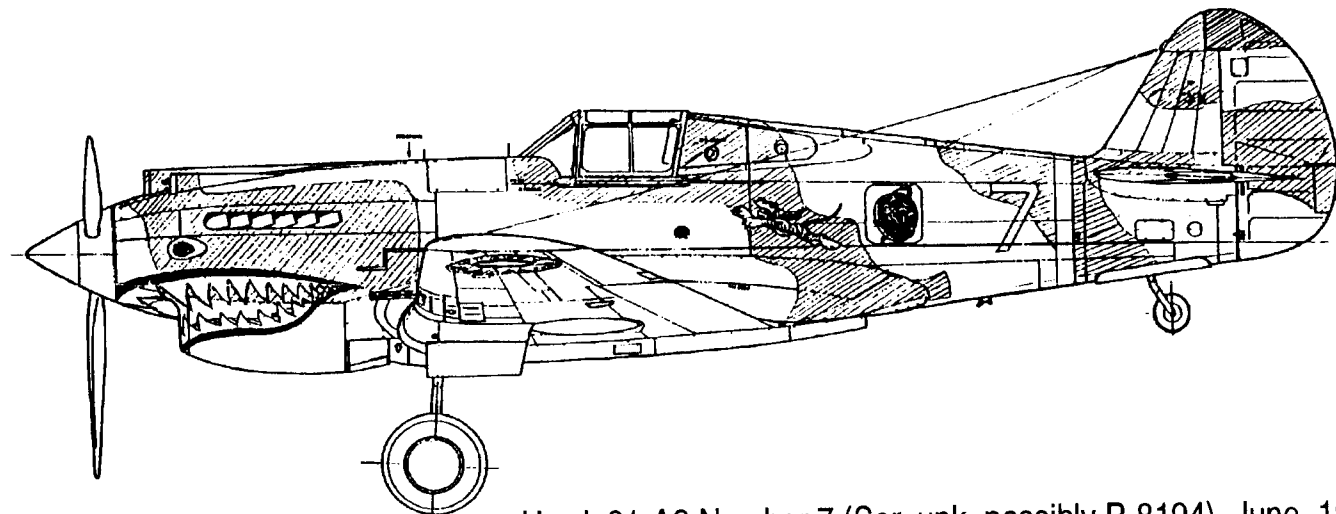

Figure 2
**Figure 2. Hawk 81-A2 number 7 (uncertain serial number, possibly P-8194), June, 1942:** This was the aircraft assigned to Robert Neale, (second) Leader of the First Squadron. Neale was the AVG's, and, at the time, America's highest-scoring ace, credited with 15.55 victories. There is some confusion in identifying the serial number for this aircraft. One photo (of the starboard side of this plane) states that the barely visible serial number on that side was P-8194, although another source says this serial number was used on a different airframe that was cannibalized after a crash. A film shot in about April, 1942 reveals the serial number on the port side as illustrated here: partially painted over, with the last two digits remaining, but unreadable. Note dark green touchup paint on top of the fin and rudder, the result of repairs, and which raises the possibility that the serial number confusion is the result of cannibalized tail components. Shark mouth was typical black, white and red, with camouflage showing through. White eye had black pupil with probable red edging. All numbers and letters in white, including pilot inscription in front of cockpit. The "first pursuit" green apple insignia was not applied until late in the life of the AVG, in May or June, 1942. (The tiger decal was applied in March or April, 1942.) Unlike virtually all other first squadron insignia, this one had fully painted figures (in unknown colors, but probably flesh tones, black, white, and